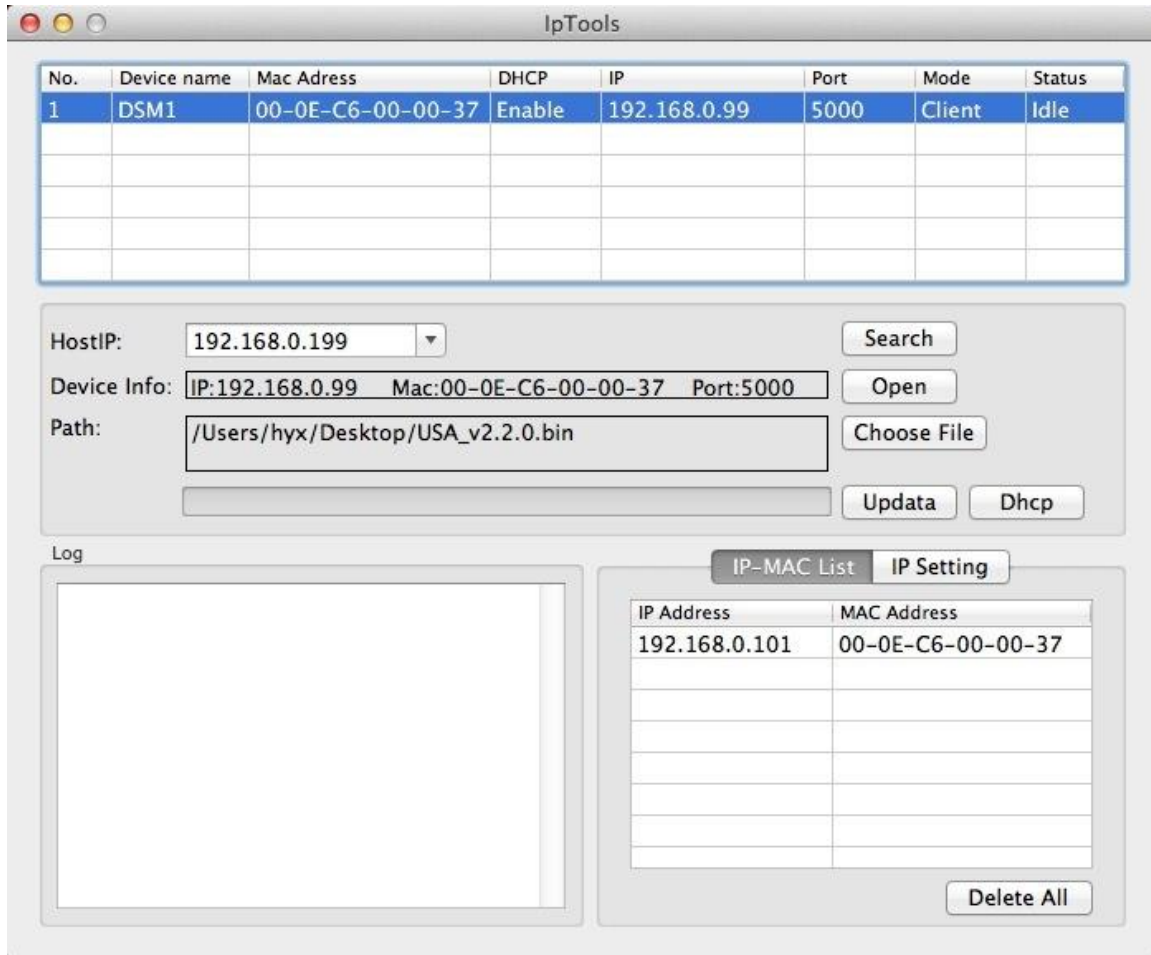

Figure 30a
3. Connect to the WeatherSleuth® as per 3.6.4. Select the Update button to begin the firmware upgrade (see Figure 30a). As shown in Figure 30a, the IP address of the WeatherSleuth® is 192.168.0.7. Make a note of your IP address (your results will vary).